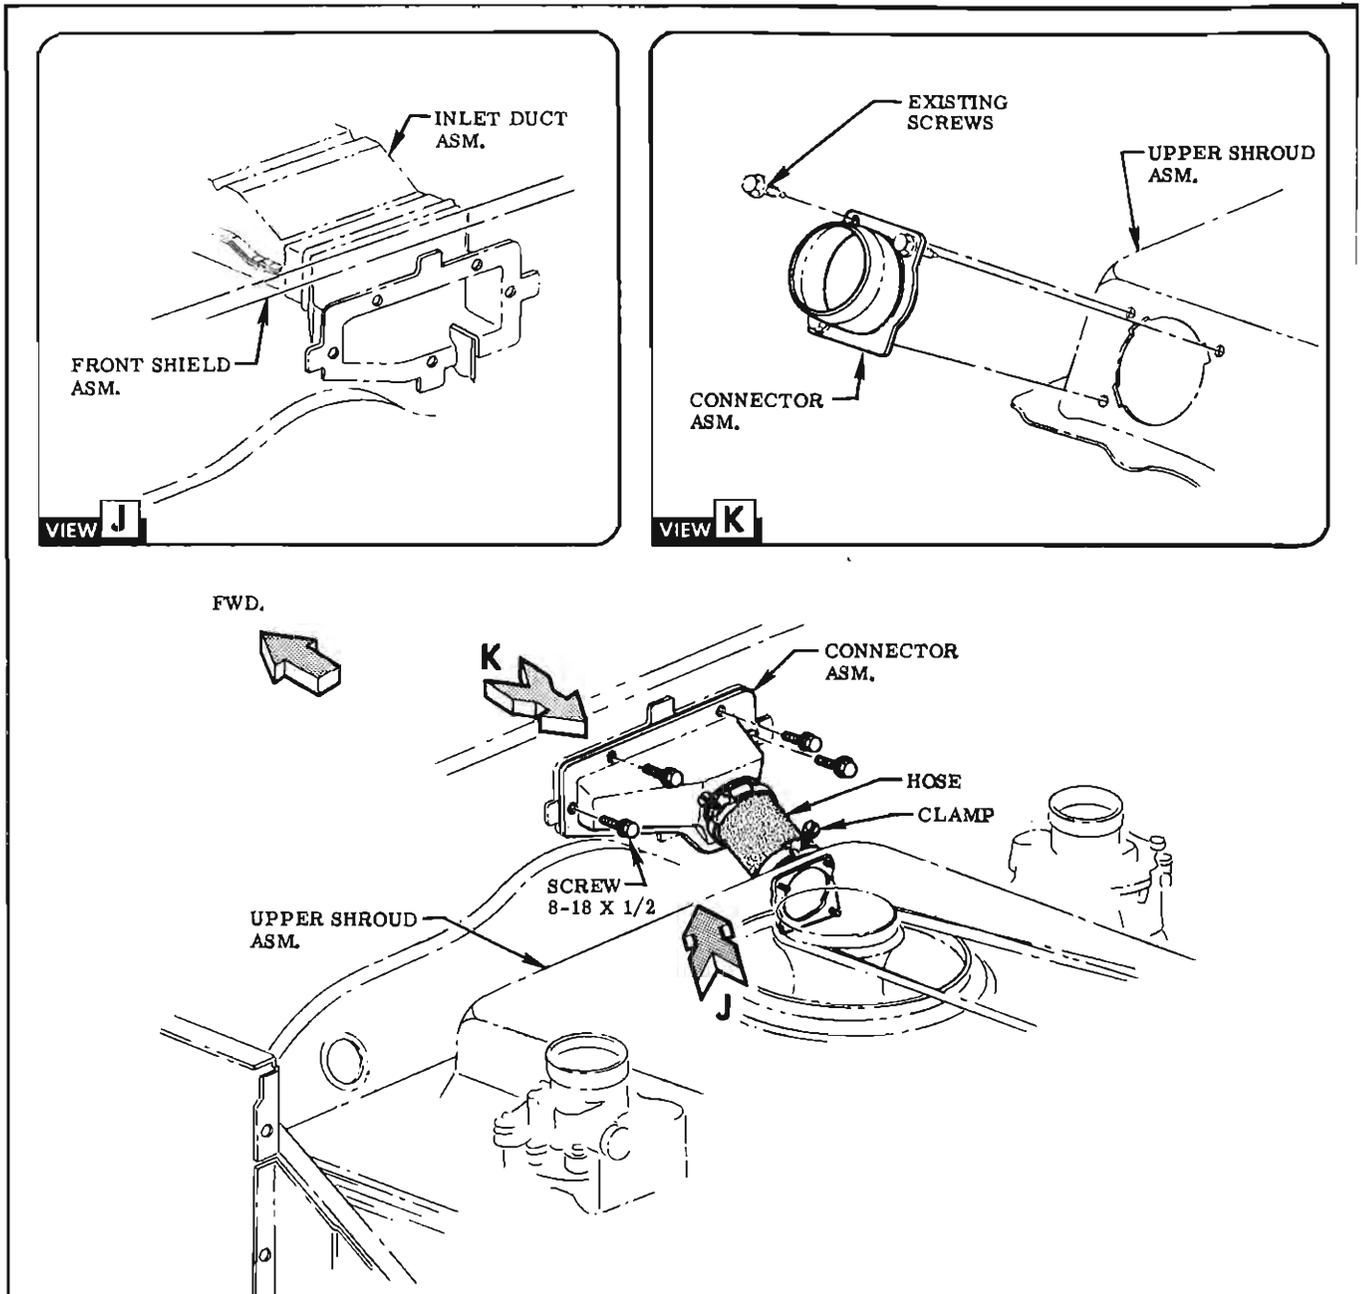

FIG. 7 CONNECTORS & HOSES
STEP 38 REACH THRU OPENING & PULL INLET DUCT THRU. INSTALL CONNECTOR WITH SCREWS (IN BAG D). SEE FIG. 7 & VIEW J.
STEP 41 PLACE CLAMPS ON THE HOSE & INSTALL HOSE. TIGHTEN CLAMPS. SEE FIG. 7.